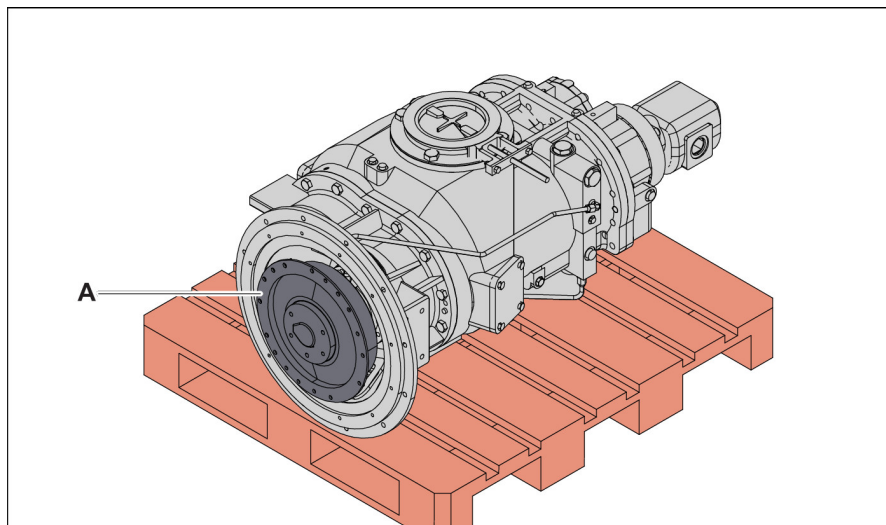

Figure 13
22. Remove the 12 cap screws that attach the coupling flange (Figure 13, item A) to the flywheel. Discard the cap screws.
6. Align the coupling flange and the flywheel cap screw holes with four of the cap screws that attach the coupling flange to the flywheel (Figure 13).
12. Install the rubber element onto the compressor shaft with the inner ring of 10 cap screws facing towards the outside. Make sure that the element has full travel along the length of the crankshaft without binding (Figure 13).
22. Tighten the 10 inner cap screws lightly in a circular pattern with an 8-millimeter hex key wrench/socket. Tighten the cap screws as much as possible until the Coupling Assembly begins to turn (Figure 13).
24. Attach the rubber element by either putting a hammer between the element and the power pack base or with a small chain and two cap screws. Put the chain through the inspection hole, wrap the chain to the element, and attach it with a cap screw (Figure 13).